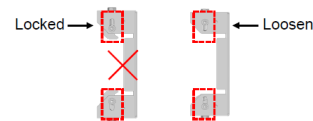

Figure 22. Rear Clamp
6. Loosen the upper and lower bolts of the rear clamp. (Figure 22)